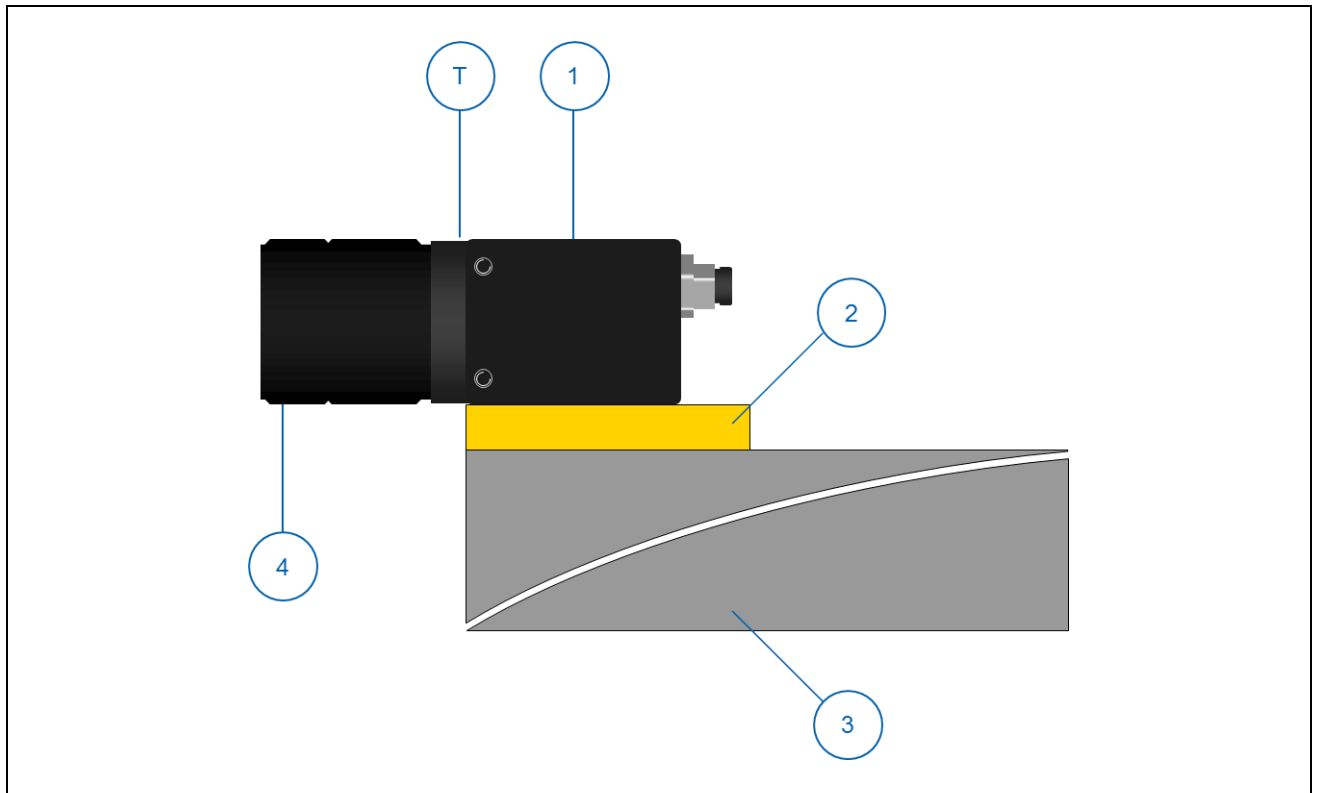

Fig.3: Camera installation example (without cabling)
Fig.3 shows camera (1) and optics (4) mounted to a metal contact surface (3) with the camera holder (2) in between.